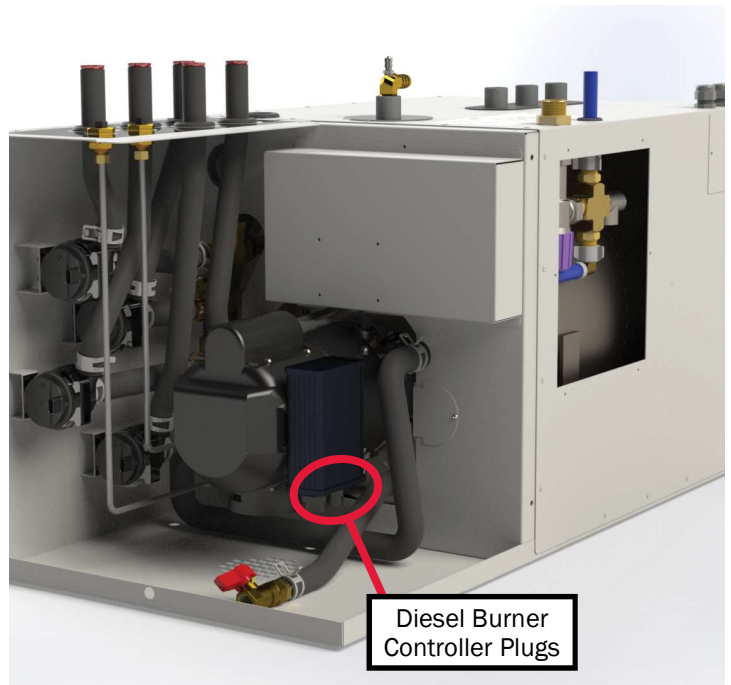

Figure 151
- Unplugging the diesel burner controller (Figure 151)